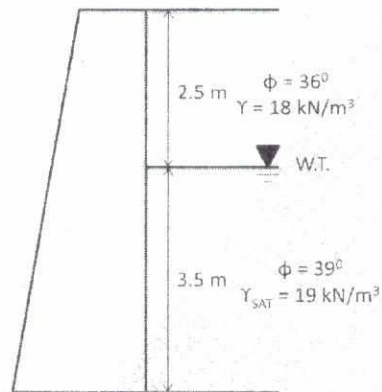

Fig. 1.
- (b) Determine the active earth pressure on the retaining wall shown in Fig. 1. Take $\gamma_w = 10 \text{ kN/m}^3$. 10